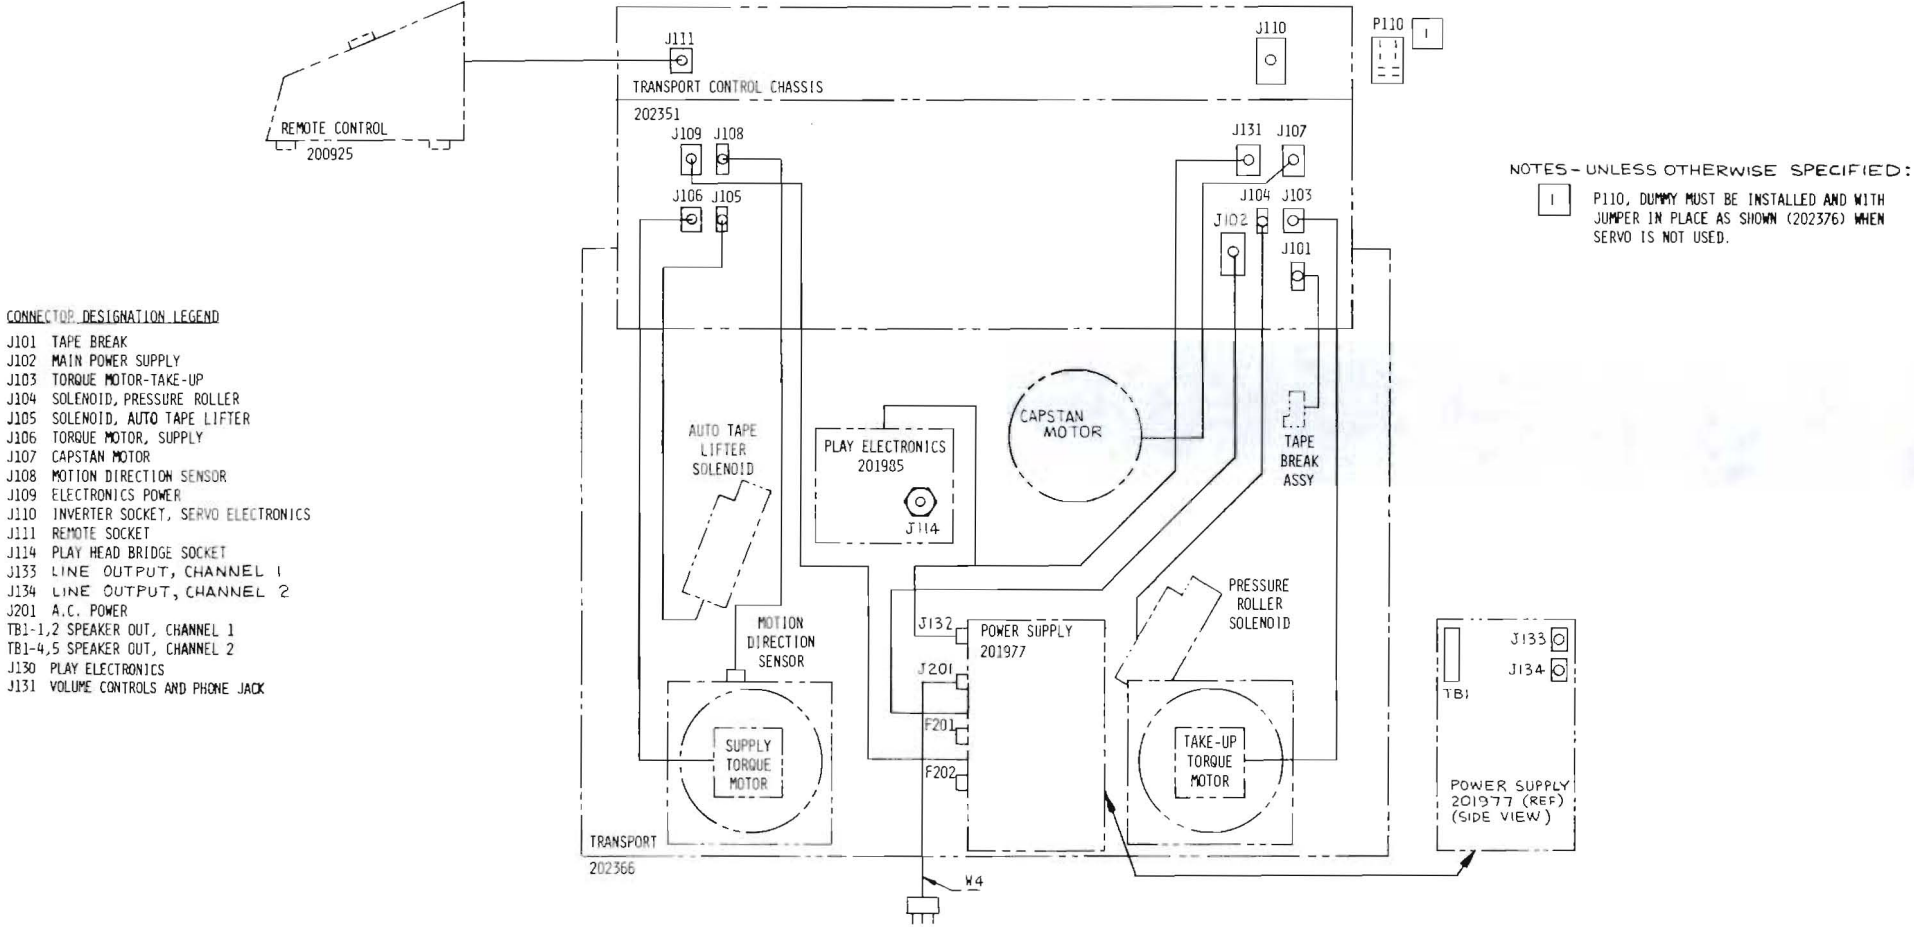

Figure 2-2. 285B Interconnection Diagram
2.4 Interconnect the reproducer as shown in Figure 2-2 and detailed below. Connector locations are shown in Figure 2-3.